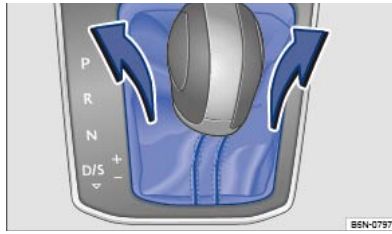

Fig. 126 Removing the cover of the gearshift gate.
- Carefully pull the cover upwards in the area around the selector lever gaiter with connected electrical wiring ⇒ Fig. 126.
- Using the flat blade of the screwdriver from the vehicle tool kit, carefully push the release lever in the direction of the arrow and hold it in this position ⇒ Fig. 126.